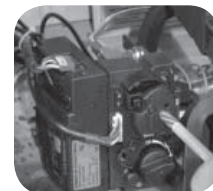
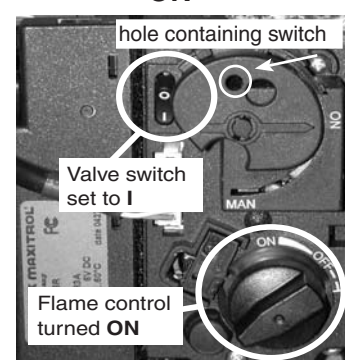

Fig. 17-1
Fig. 17-5
- D. G10-01V(P) - Set control to manual. Press O/I to I. (see Fig. 17-5 ) Use a pen tip to activate the switch inside the hole as shown in Fig. 17-1.